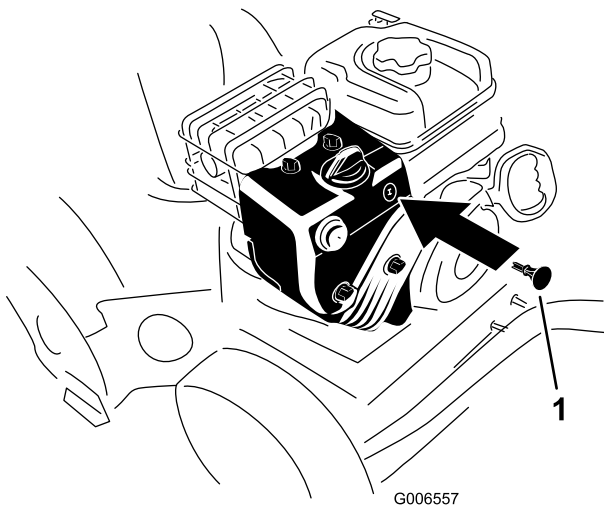

Figure 26
3. Insert the ignition key (Figure 26).